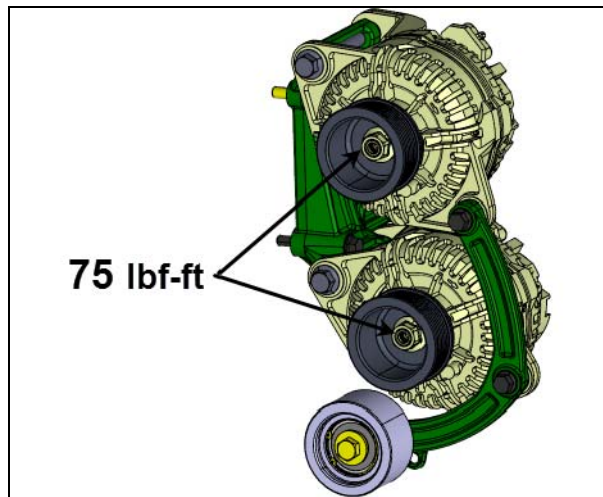

FIGURE 5
9. Mount pulley onto alternators (figure 5). Use Loctite 243 blue on threads. Tighten pulley mounting nut to **75 lbf-ft** using Prevost tool and a M10 12-points spline drive mounted on a torque wrench (refer to the end of this document for details concerning special tools).